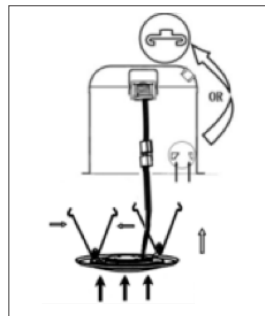

FIGURE 1
**B)** If using torsion springs, squeeze both torsion spring arms together and insert into the torsion spring slots (or receiver brackets) of the can. (Figure 1)
**C)** Tuck all wires into the can and carefully push the fixture into the can. Helpful hint: to provide enough room in shallow cans, carefully position socket adapter and socket adjacent to the long side of the LED driver prior to inserting the fixture into the can.) (Figure 1)